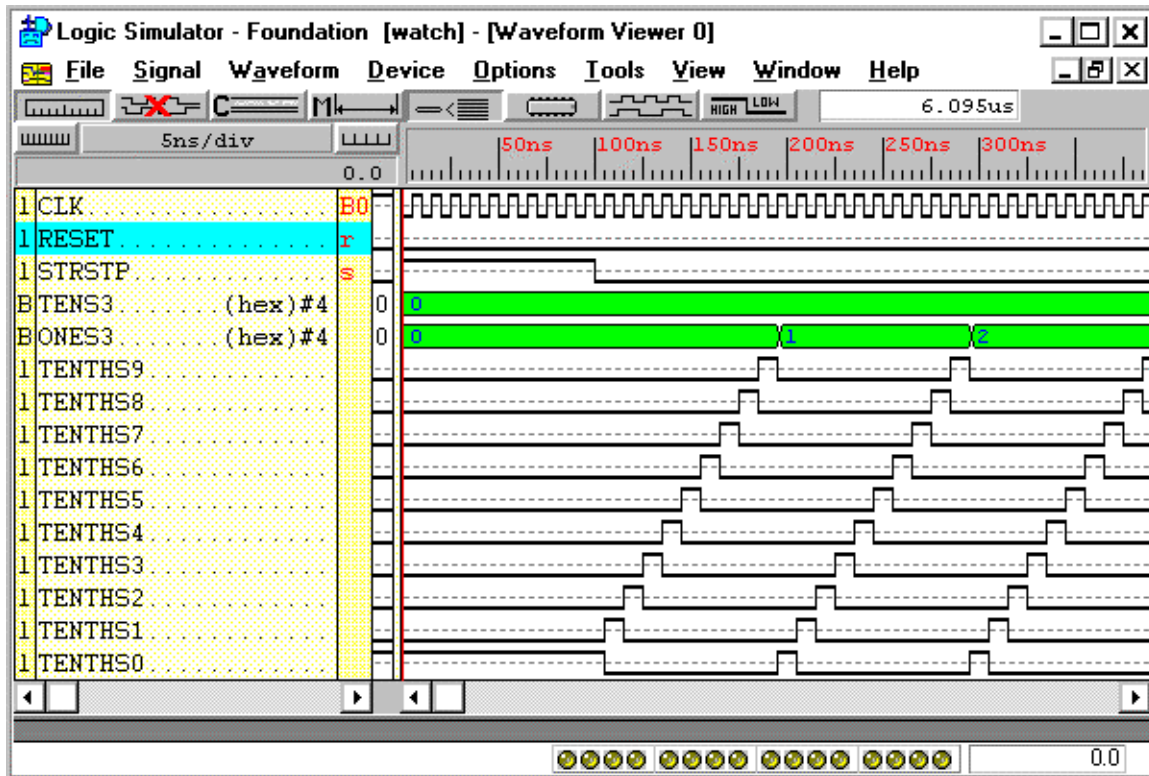

Figure 9. Checking the starting operation of the WATCH Project.
- 1) Insert probes on the **CLK**, **RESET**, **STRSTP**, **TENTHS[9:0]**, **ONES[3:0]**, and **TENS[3:0]** signals. Enter the simulator, flatten the necessary busses, and choose the appropriate display format for the remaining busses (see Figure 9). Since the **HEX2LED** macro is purely combinatorial, it is not necessary to verify its functionality with the rest of the project.
- 3) Make certain to verify the functionality when the circuit starts operation, resets, and reaches its maximum count value of 59.9 seconds (see Figures 9, 10, and 11).